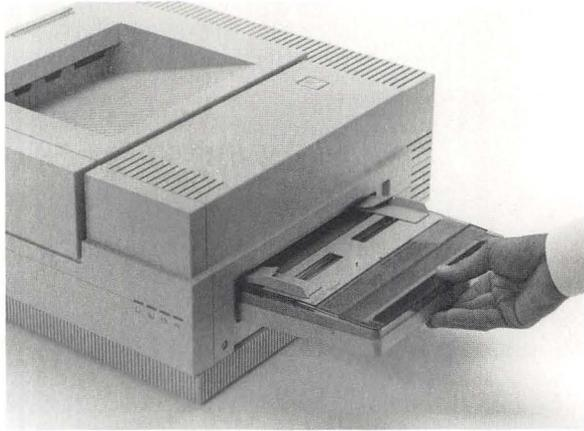

Figure 1-17 Inserting the loaded cassette
1. Slide the front of the cassette into the slot on the right side of the LaserWriter II. (See Figure 1-17.)